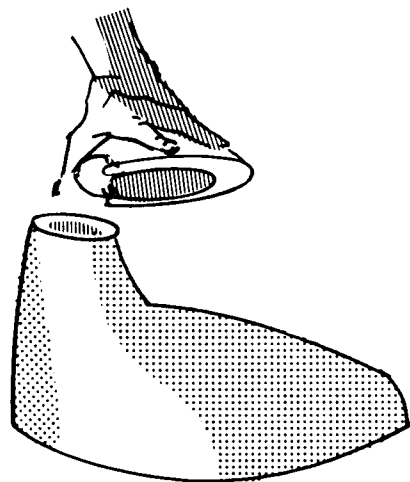

FIGURE 9. MOUNTING THE TRAP CORE.
3. A concrete core for shaping the inside of the water-seal trap (see Figure 9).
5. Cover the bowl core with a 1:2 cement-sand mixture to a total thickness of 12.5mm (1/2"). Make a smooth lip on the cement 10mm (3/8") from the top of the bowl core as in Figure 9. This lip is your water seal. Use fairly dry cement and let it set for 15 minutes before cutting this lip.
6. Place the trap core on the bowl core and seal the crack with clay. Also add a little clay on each side of the form (near the thumb in Figure 9) to prevent cement from getting to the front lip.